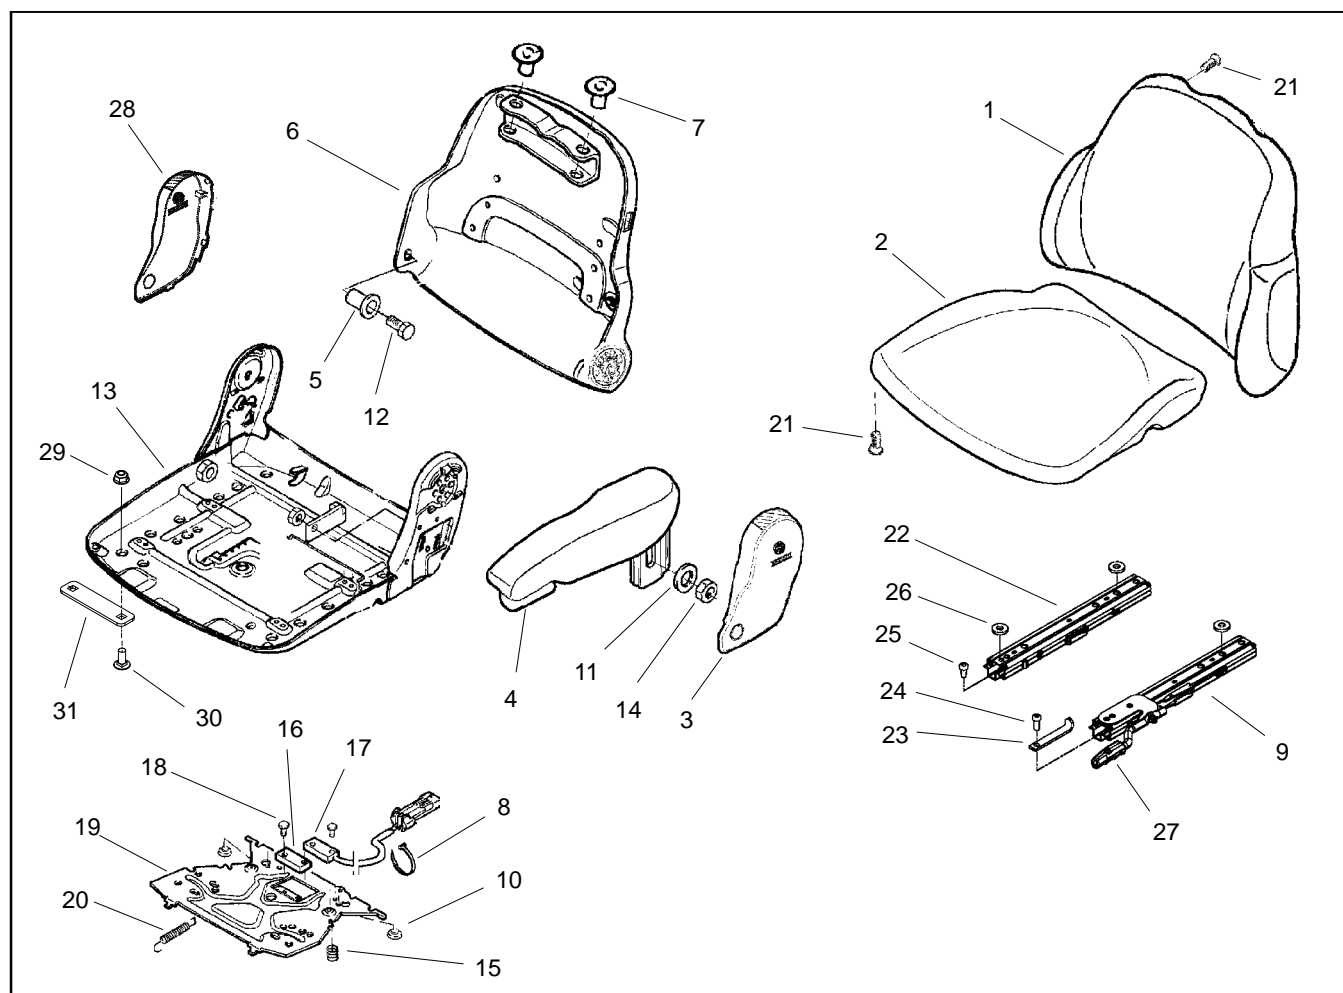

Figure 14
### **Disassembly (Fig. 14)**
2. Disassemble operator seat as necessary using Figure 14 as a guide.
### **Assembly (Fig. 14)**
1. Assemble operator seat using Figure 14 as a guide.